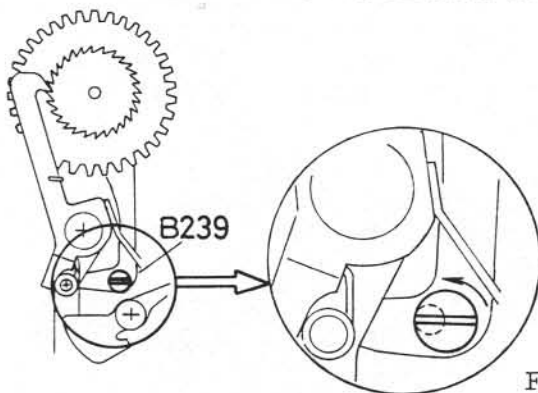
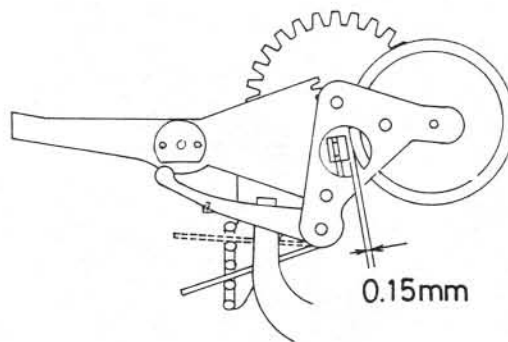

Fig. 28
Fig. 31
25-2 Set the eccentric screw on Release lever assy. (0-B239) as shown in Fig. 28.
Turn the eccentric screw as shown in Fig. 28 to make the clearance of approx. 0.15mm as shown in Fig. 31.
Note: Turn the eccentric screw in the direction of the arrow as shown in Fig. 28.
7. Make sure that there is the 0.15mm gap as shown in Fig. 31.